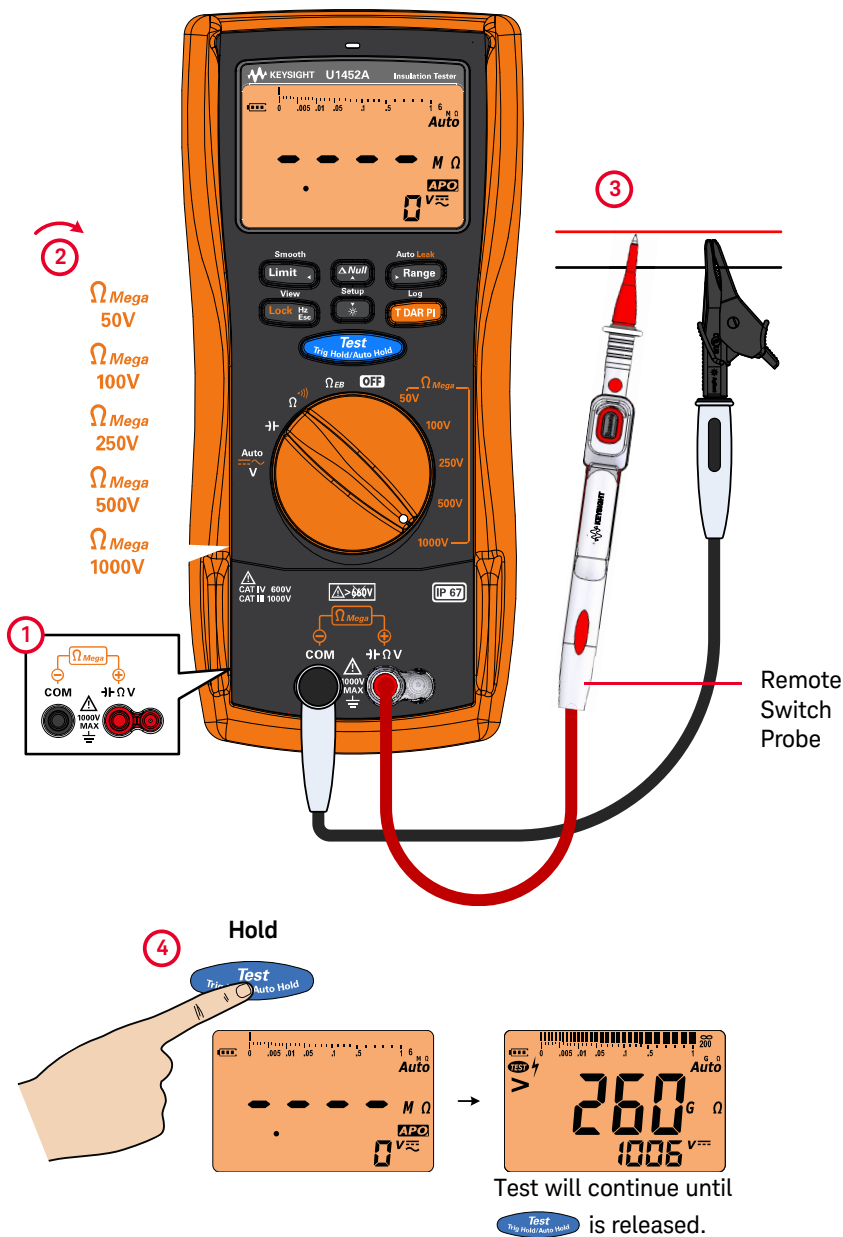

Figure 2-1 Insulation resistance test example
Set up your tester as shown in Figure 2-1. Set the rotary switch to a test voltage value that does not exceed the maximum voltage limitation of the circuit under test. Ensure that the device-under-test (DUT) is de-energized before performing any resistance measurement.
Use the timed test to obtain measurement results with consistent test times – for later comparisons. Set up your tester as shown in Figure 2-1, and follow the steps shown below.
Dielectric Absorption Ratio (DAR) is the ratio of the insulation resistance tested at 60 seconds to the insulation resistance tested at 30 seconds. Set up your tester as shown in **Figure 2-1**, and follow the steps shown below.
Polarization Index (PI) is the ratio of the insulation resistance tested at 10 minutes to the insulation resistance tested at 1 minute. Set up your tester as shown in **Figure 2-1**, and follow the steps shown below.